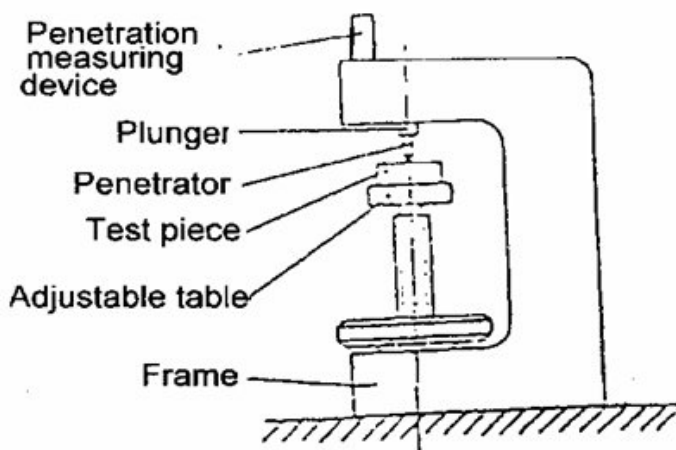

Fig.1. Penetration hardness tester
5.1. Hardness tester (see Fig. 1)